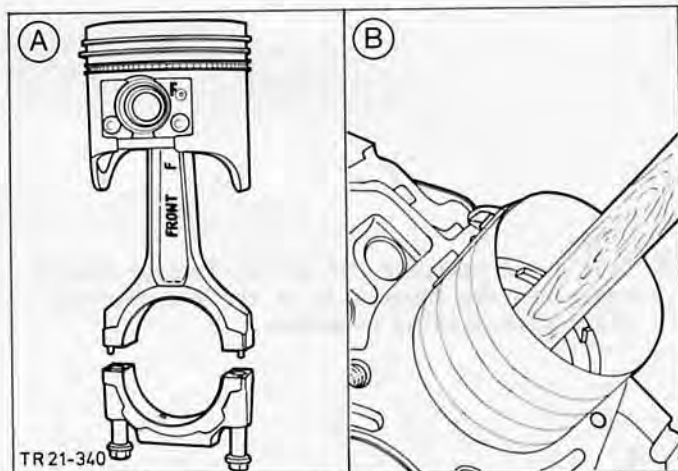

Fig.60. A - front marks on pistons and connecting rods
49. Compress the piston rings using a standard piston ring compressor and press piston into the cylinder with the aid of a hammer handle, Fig.60, guiding the connecting rod onto the big end journal by hand.
NOTE: Pistons and connecting rods must be fitted with the front markings pointing towards the timing cover, Fig.60.